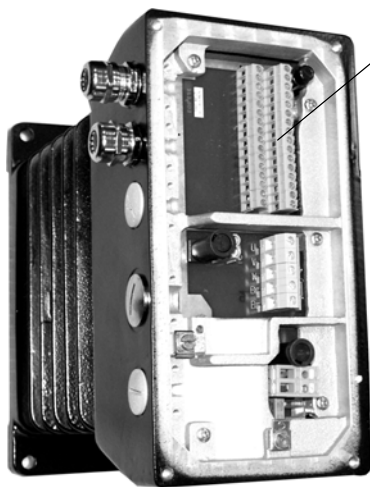

Fig. 45: Signal terminal location; exemplified for EBN853
- (see fig. 45 for terminal position)